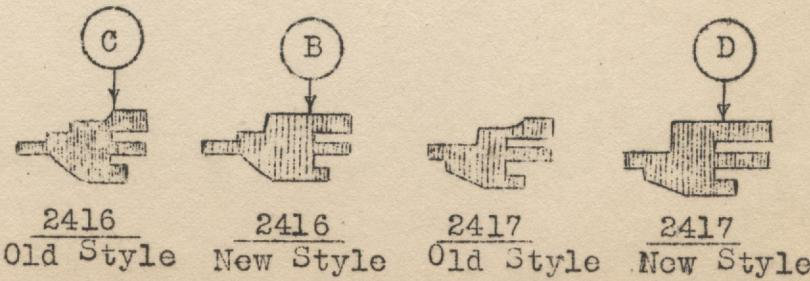

FIG. 6
An improvement has been made in the carrying dogs by adding a small amount of stock on the top of the dogs at the points where they contact the feet of the wedges. See (B) and (D), Figure 6. In LA-6 models, due to the use of round tooth gears in the extra carry unit, it is necessary to set a slightly higher mesh between the dial gears and intermediate gears than in other L models. This higher mesh causes the wedges (A) to be depressed slightly later by the carrying pins than with the deep mesh, and we have found that this delay, even though it is slight, causes the wedges, when they are depressed, to strike the top of the dogs rather than to drop in front of them. In order to overcome this condition, we have added a small amount of metal to the top of the dogs so that the delay in depressing the wedge is compensated.